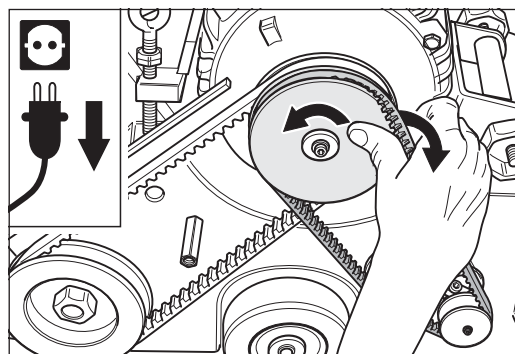

Fig. 106 Remove the suction V-belt.
- 8 Turn the motor pulley and allow the suction V-belt to run off the motor pulley (fig. 106).